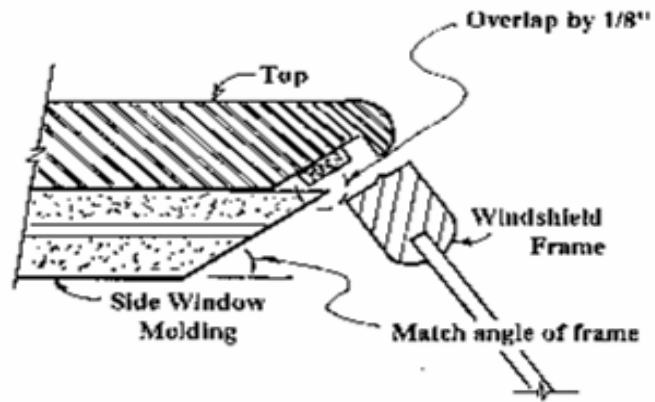

Fig. 1: Trimming Side Window Moldings
5. When the top is properly aligned, trim the side moldings using a heavy pair of scissors (see Fig. 1)